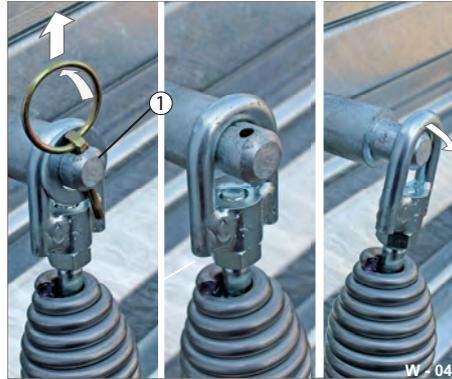

Fig. 47 Removing lifting spring
- ▶ Loosen the fastening on the upper bolt (Fig. 47/1).